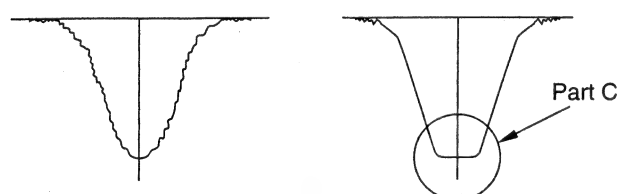

Fig. 26
- (1) When the signal from the signal generator is weak, make adjustment until the waveform becomes maximum and symmetrical as shown in Fig. 26. Increase the output of the sweep generator, and adjust the waveform until the width of its part C becomes as flat as possible.